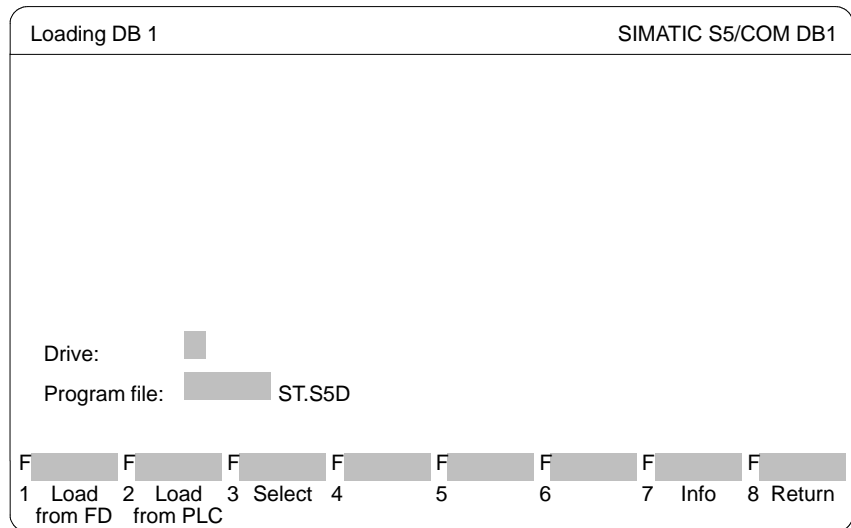

Figure 22-11 COM DB1 *Overview table* Dialog
1. Press **F2** = *Load DB1* in the *Overview table* (see *Figure 22-11*).
When loading is completed the parameter settings of DB1 in the PLC will be displayed in the *Overview table*. Since you have not yet set any parameters in DB1 of the PLC, the default DB1 will be displayed (see *Figure 22-11*).